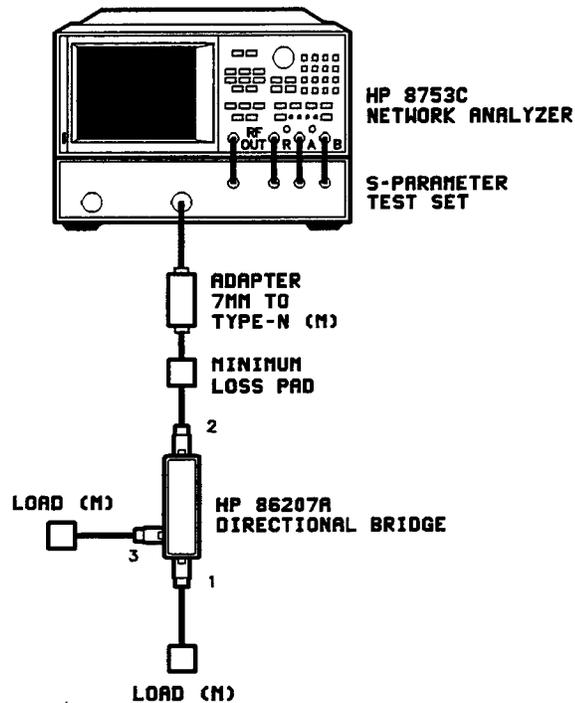

Figure 3-7. Equipment Setup for Return Loss Measurement on Port 2
16. Connect the equipment as shown in Figure 3-7 and repeat steps 11 through 14 to find the return loss on port 2.